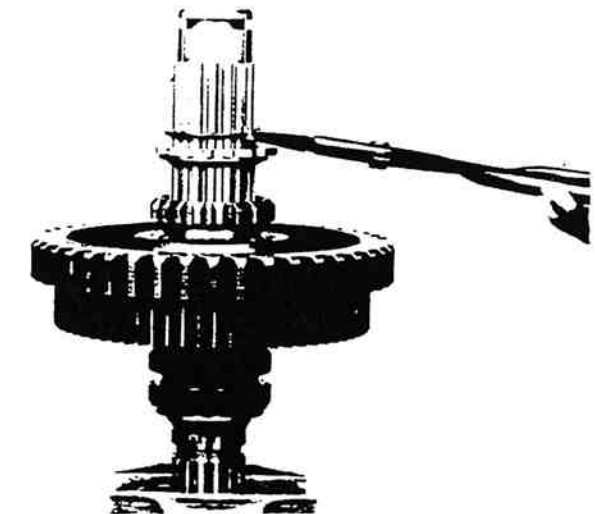

Figure 13-129. Retaining Ring Installation.
15. Install retaining ring in groove at rear of mainshaft (figure 13-129).